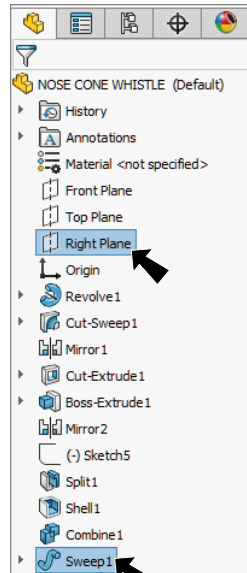

Fig. 61
Step 1. Ctrl click **Right Plane**  and **Sweep1** in Feature Manager to select both, Fig. 61.